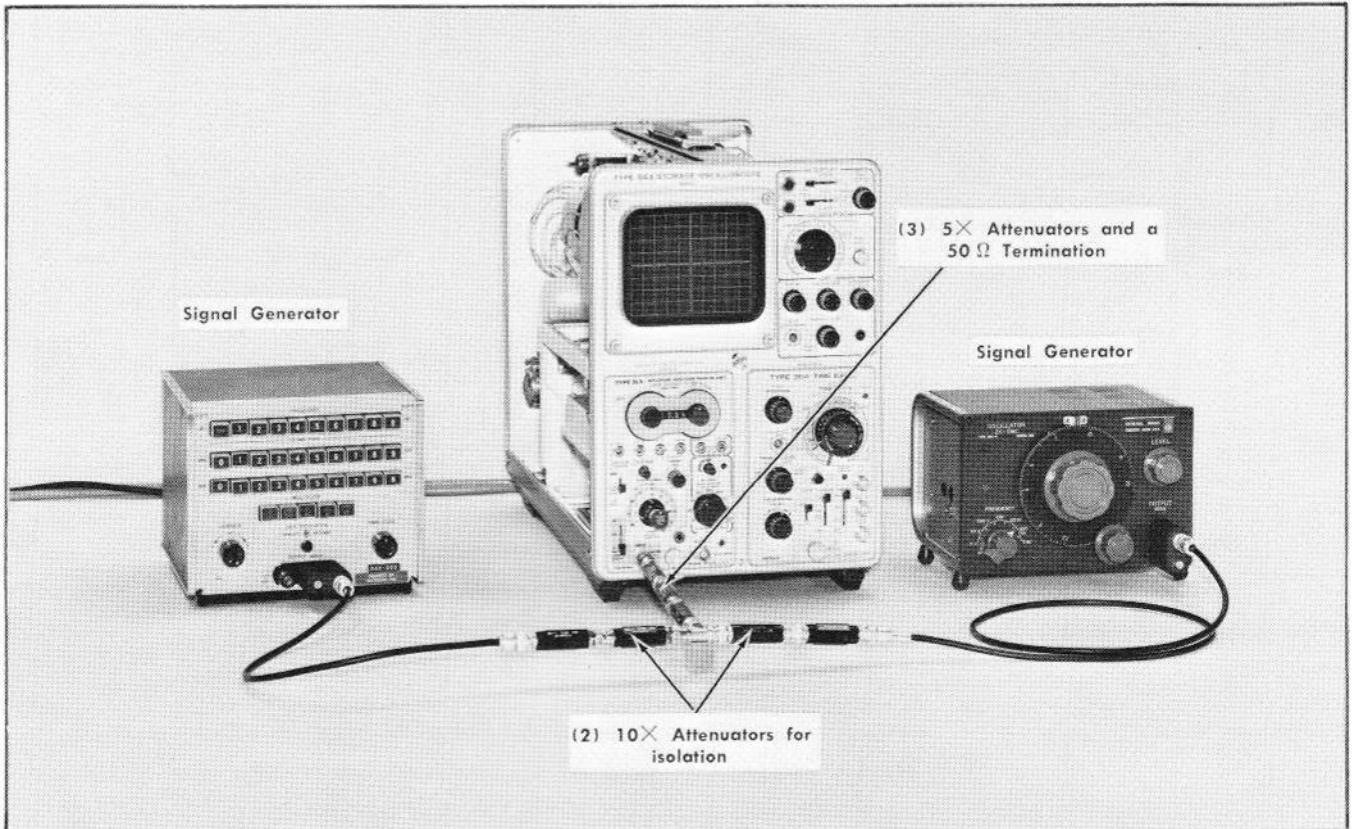

Fig. 6-27. Test equipment setup to check intermodulation distortion.
- a. Equipment setup is shown in Fig. 6-27.